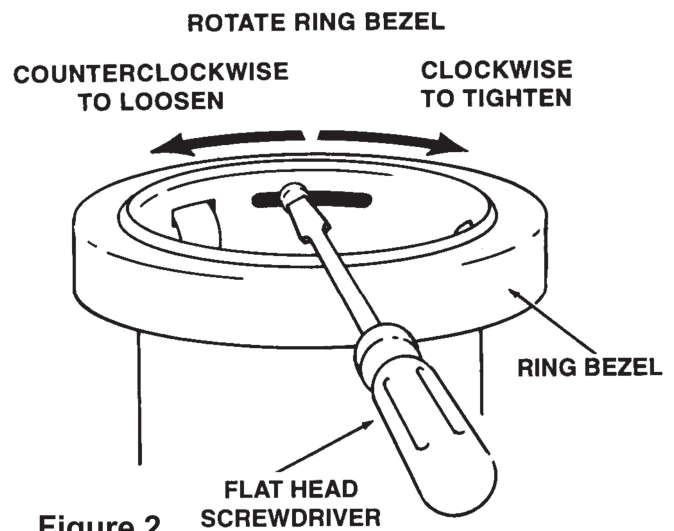

Figure 2
- Check the dispensing action. If more than one cup comes out, loosen the adjustment screw(s) and rotate the ring bezel slightly clockwise. If the cups are difficult to remove or the rims are damaged, loosen the adjustment screw(s) and rotate the ring bezel slightly counterclockwise. Retighten the adjustment screw(s). (See Figure 2)